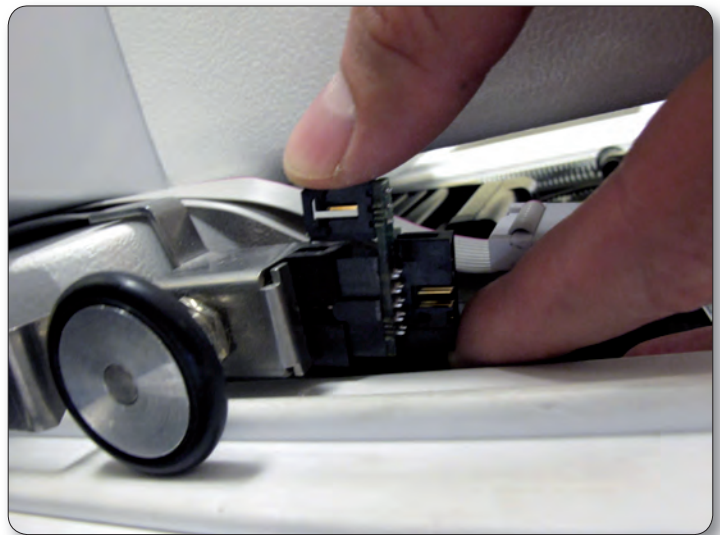

Figure 17
8. For HQ Sixteen only: Plug the Stitch Regulator Adapter Board (Page 18, S) into the Y-axis stitch regulator encoder (Figure 17).